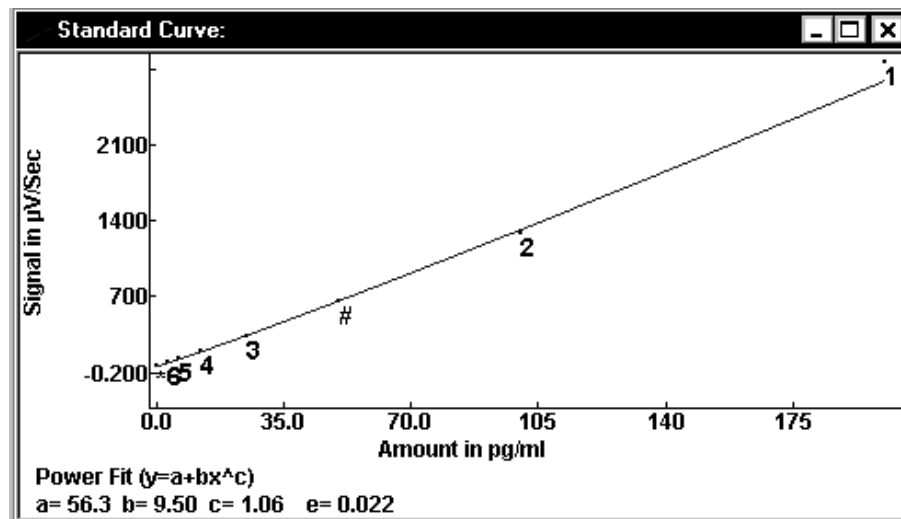

Figure 4-16: The Standard Curve Window
- 2) The Standard Curve window opens (Figure 4-16).